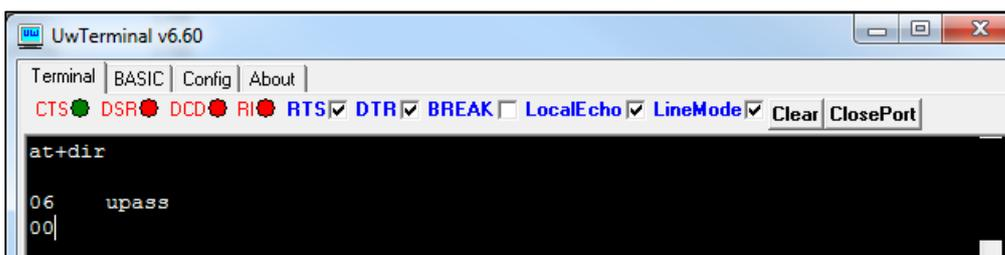

Figure 8: Directory showing "upass" app loaded
5. Confirm that **upass.vsp.sb** is loaded by using the command **at+dir** (Figure 8).